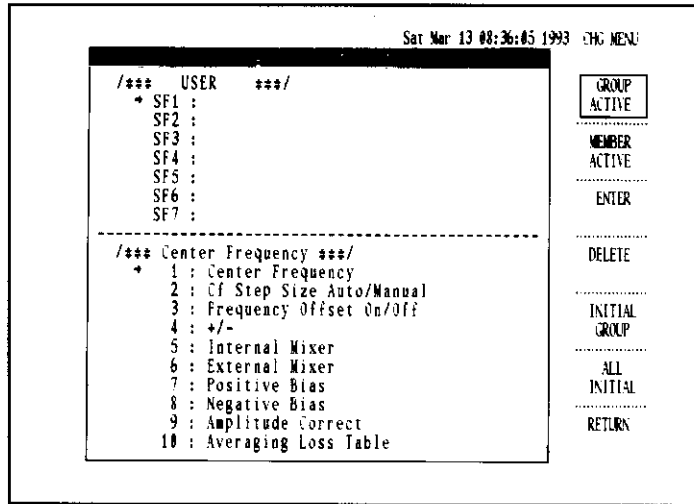

Figure 3-9 User Define Screen
(1) How to define
- ① Press the **SHIFT** and **USER** to start the definition function.
- ② Press the software menu **GROUP ACTIVE** and then **USER** for definition.
- ③ If there is no definition on **USER**, the screen shown in Figure 3-9 will be displayed.